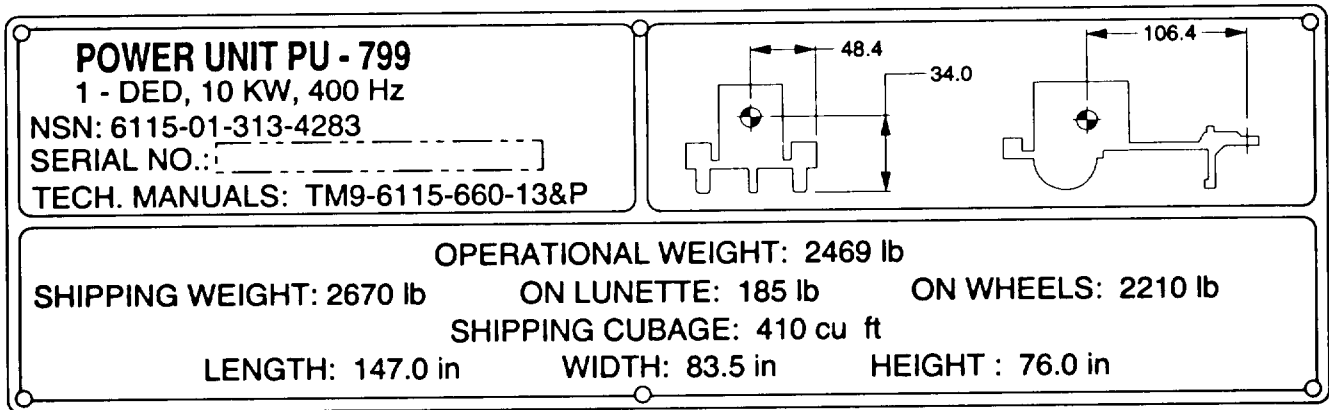

Figure 2-13. PU-799 Identification/Transportation Data Plate.
**2-6.4 PU-799 Identification/Transportation Data Plate.** Refer to figure 2-13. This plate is located on rear of curbside fender.